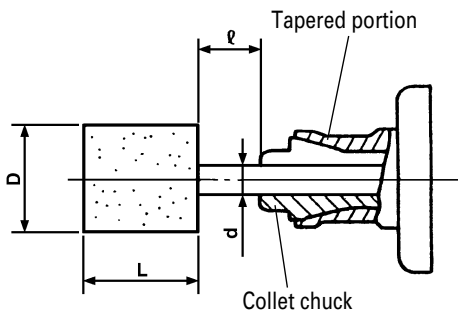

Fig. 2
- When installing a wheel with shaft, tighten the collet chuck after applying a small quantity of spindle oil (or sewing machine oil) to the tapered portion indicated in Fig. 2.